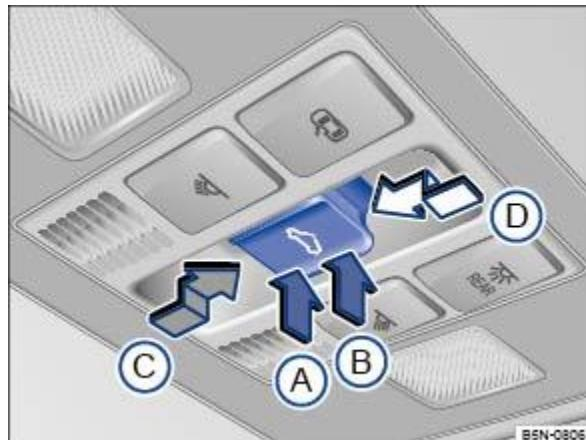

Fig. 66 In the roof: button for the glass roof.
Tilting the glass roof: push the button ⇒ Fig. 66(B) to the first position. One-touch function: push button (B) to the second position.